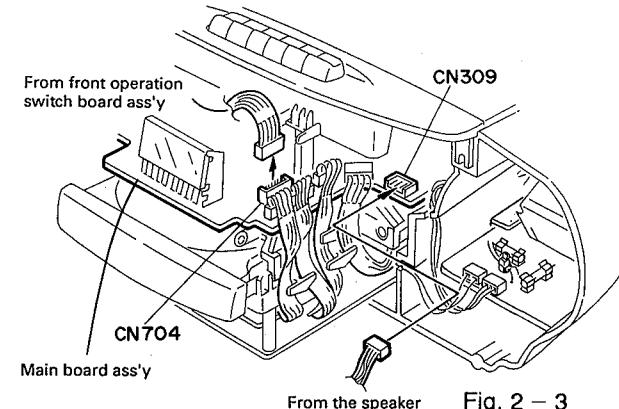

Fig. 2-3
- Remove the speaker harness coming from the front cabinet assembly and the operation switch board harness connected to the CN704 and CN309 connectors on the main PCB (Fig. 2-3).
- For removing the handle and top cover, extend the rear cabinet outwards (as indicated by the lateral arrows) and it is disengaged from the right and left fittings ③. Then, the handle can be removed in the direction of the arrow (rearwards).
1. Remove the handle (Fig. 2-3).